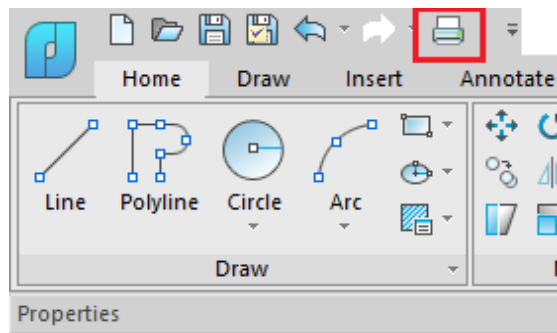

Fig. 48. The Plot command
2. Click the Plot button in the Quick Access bar (fig. 48):